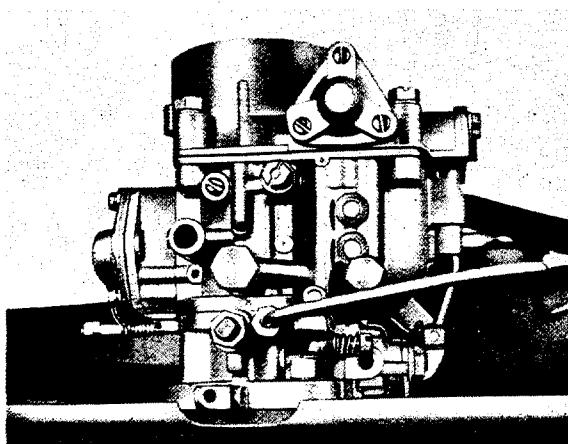

Fig. M 31/4
4. Loosen nuts with spring washers and remove carburetor with rock asbestos gaskets and cover plate (Fig. M 31/4).